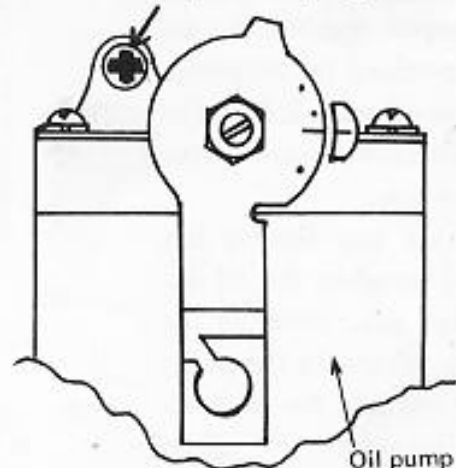

Fig. 6-7-5 Air bleeding screw
- If air is present in the oil line from the oil tank to the oil pump, loosen the oil pump bleeder screw as shown in Fig. 6-7-5, and bleed until all air has been expelled from the oil.